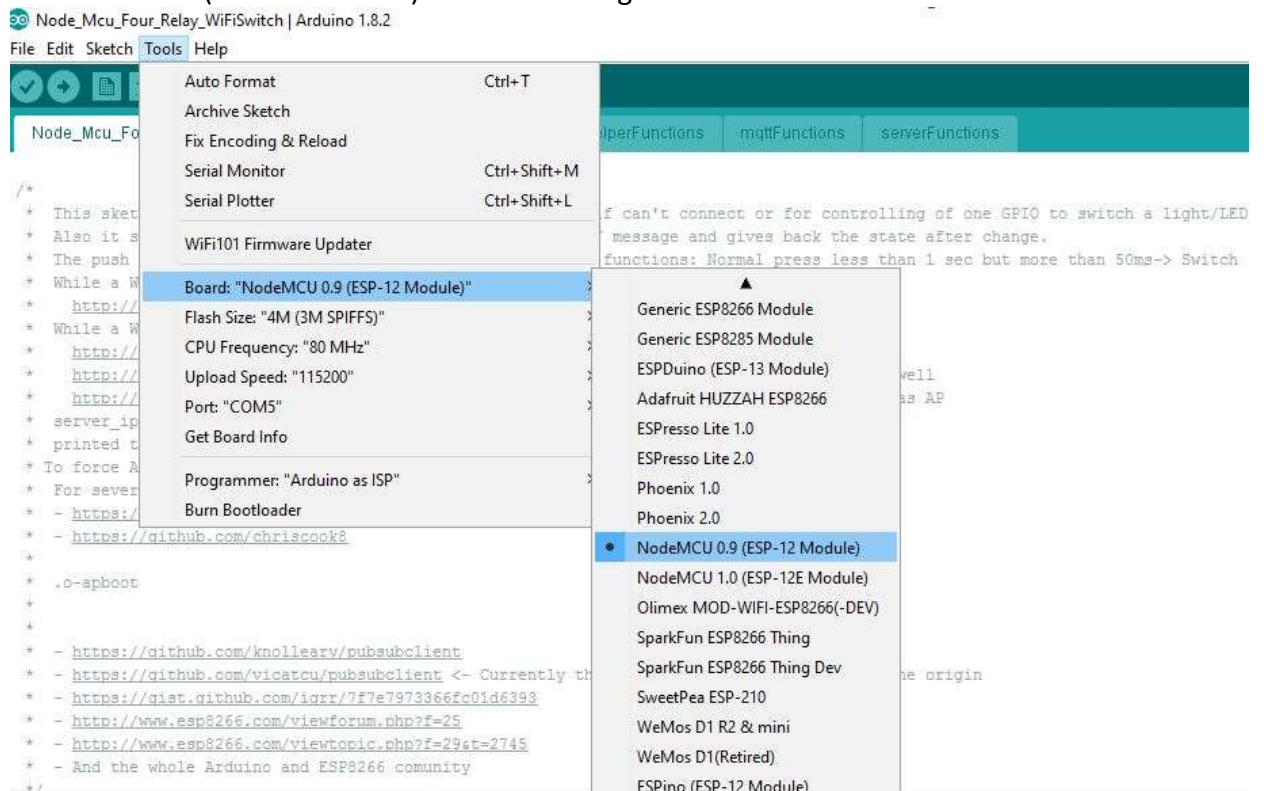

Figure 23: Board Selection
9. Click on Tools Tab, move mouse pointer on "Board: xxxxxxxxxx" and click on "NodeMCU0.9 (ESP-12 Module)" as shown in figure 23.